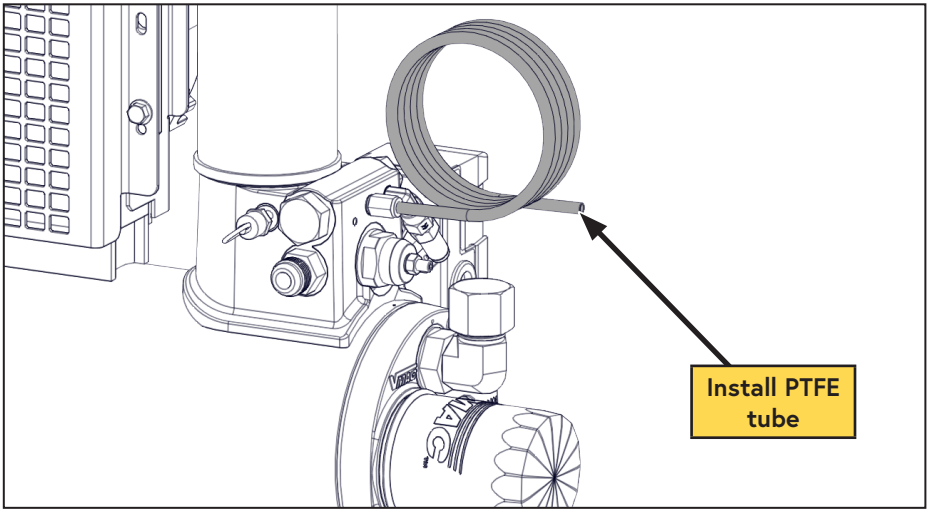

Figure 26 — Tubing Installation
- Connect the 1/4 in PTFE tube into the push-to-connect fitting installed in the WHASP Tank (Figure 26).